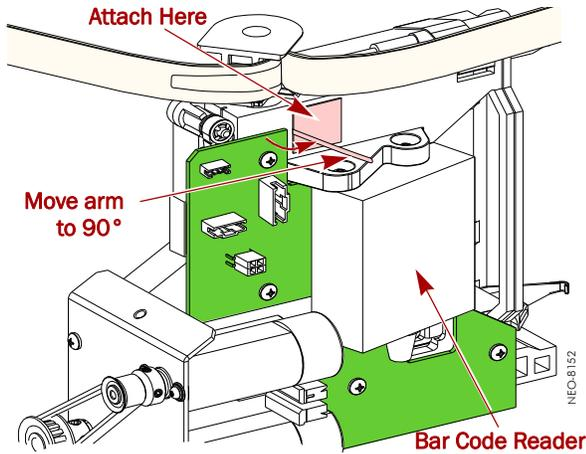

Figure 12. Attach the Clamp
1. With the **plastic-coated clamp** arm pointing out, attach it to the shuttle just above the bar code reader next to the Shuttle PWA (Figure 12 & Figure 17).